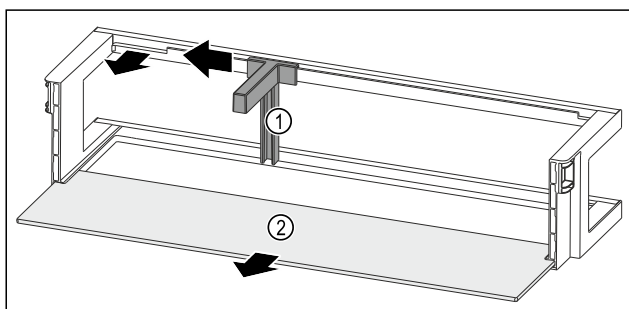

Fig. 213 Door rack with bottle holder and shelf
- Slide the bottle holder Fig. 213 (1) to the side as far as the recess.
- Remove the bottle holder Fig. 213 (1).
- Remove the shelf Fig. 213 (2).